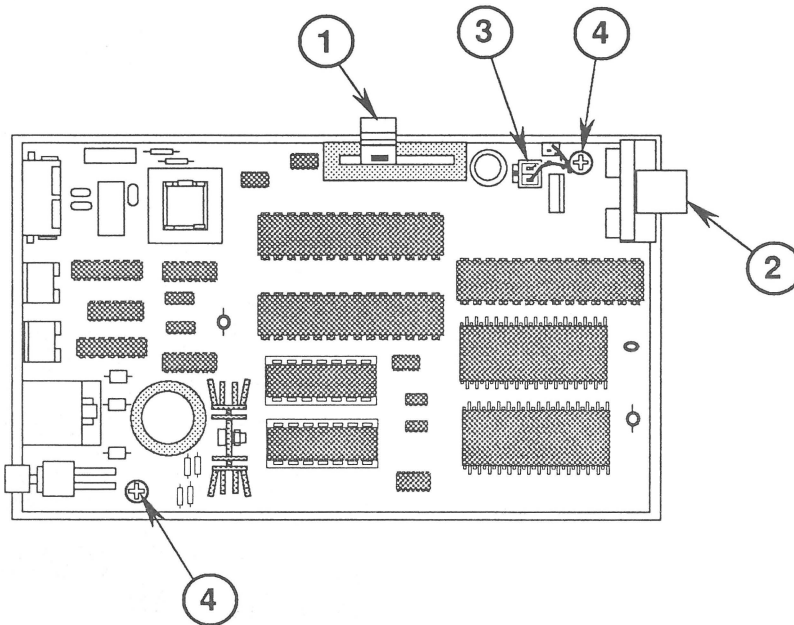

FIGURE 7
2. Lift up and remove the volume lever (Figure 7, #1).
3. Lift up and remove the light pipe assembly (Figure 7, #2).
4. Disconnect the speaker cable (Figure 7, #3).
5. Remove the two Phillips screws and star washers (Figure 7, #4).